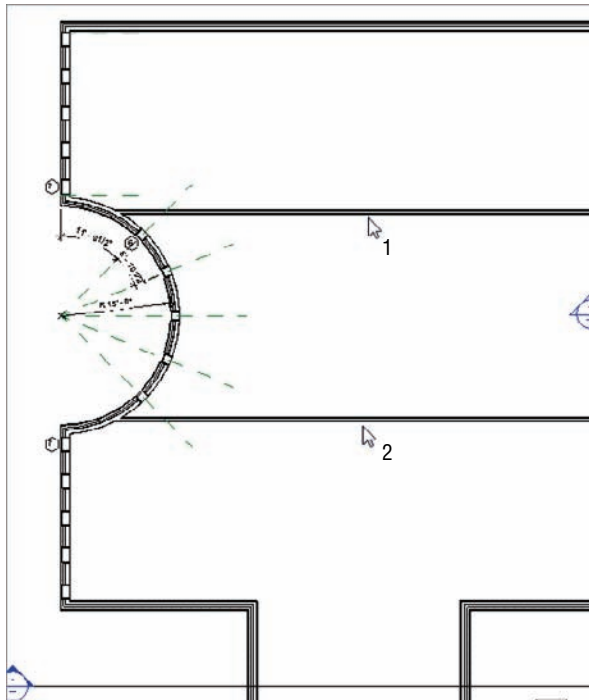

FIGURE 5.25 Adding two corridor walls
3. Draw two interior-partition (2 hr) corridor walls, as shown in Figure 5.25.